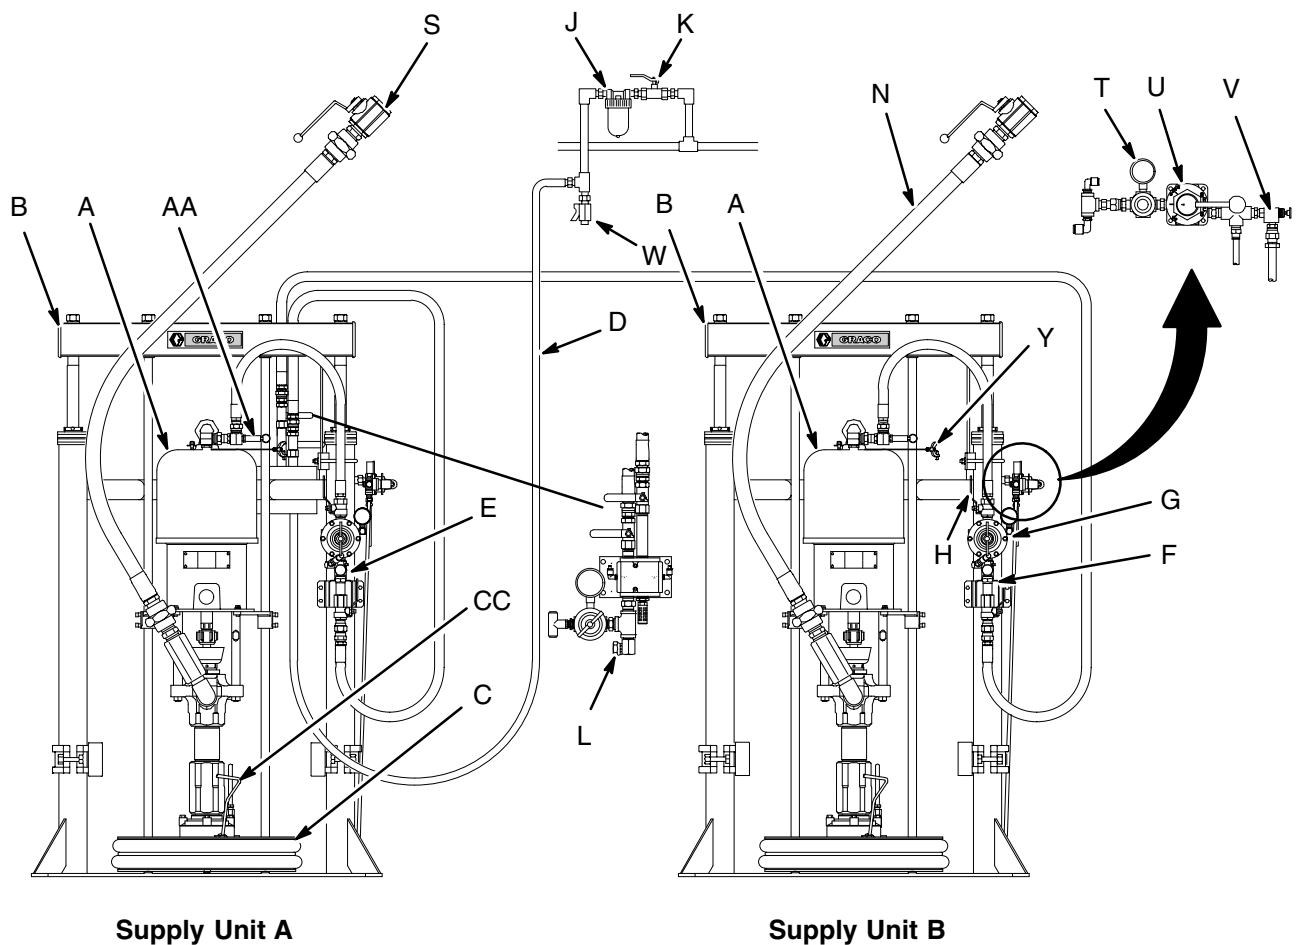
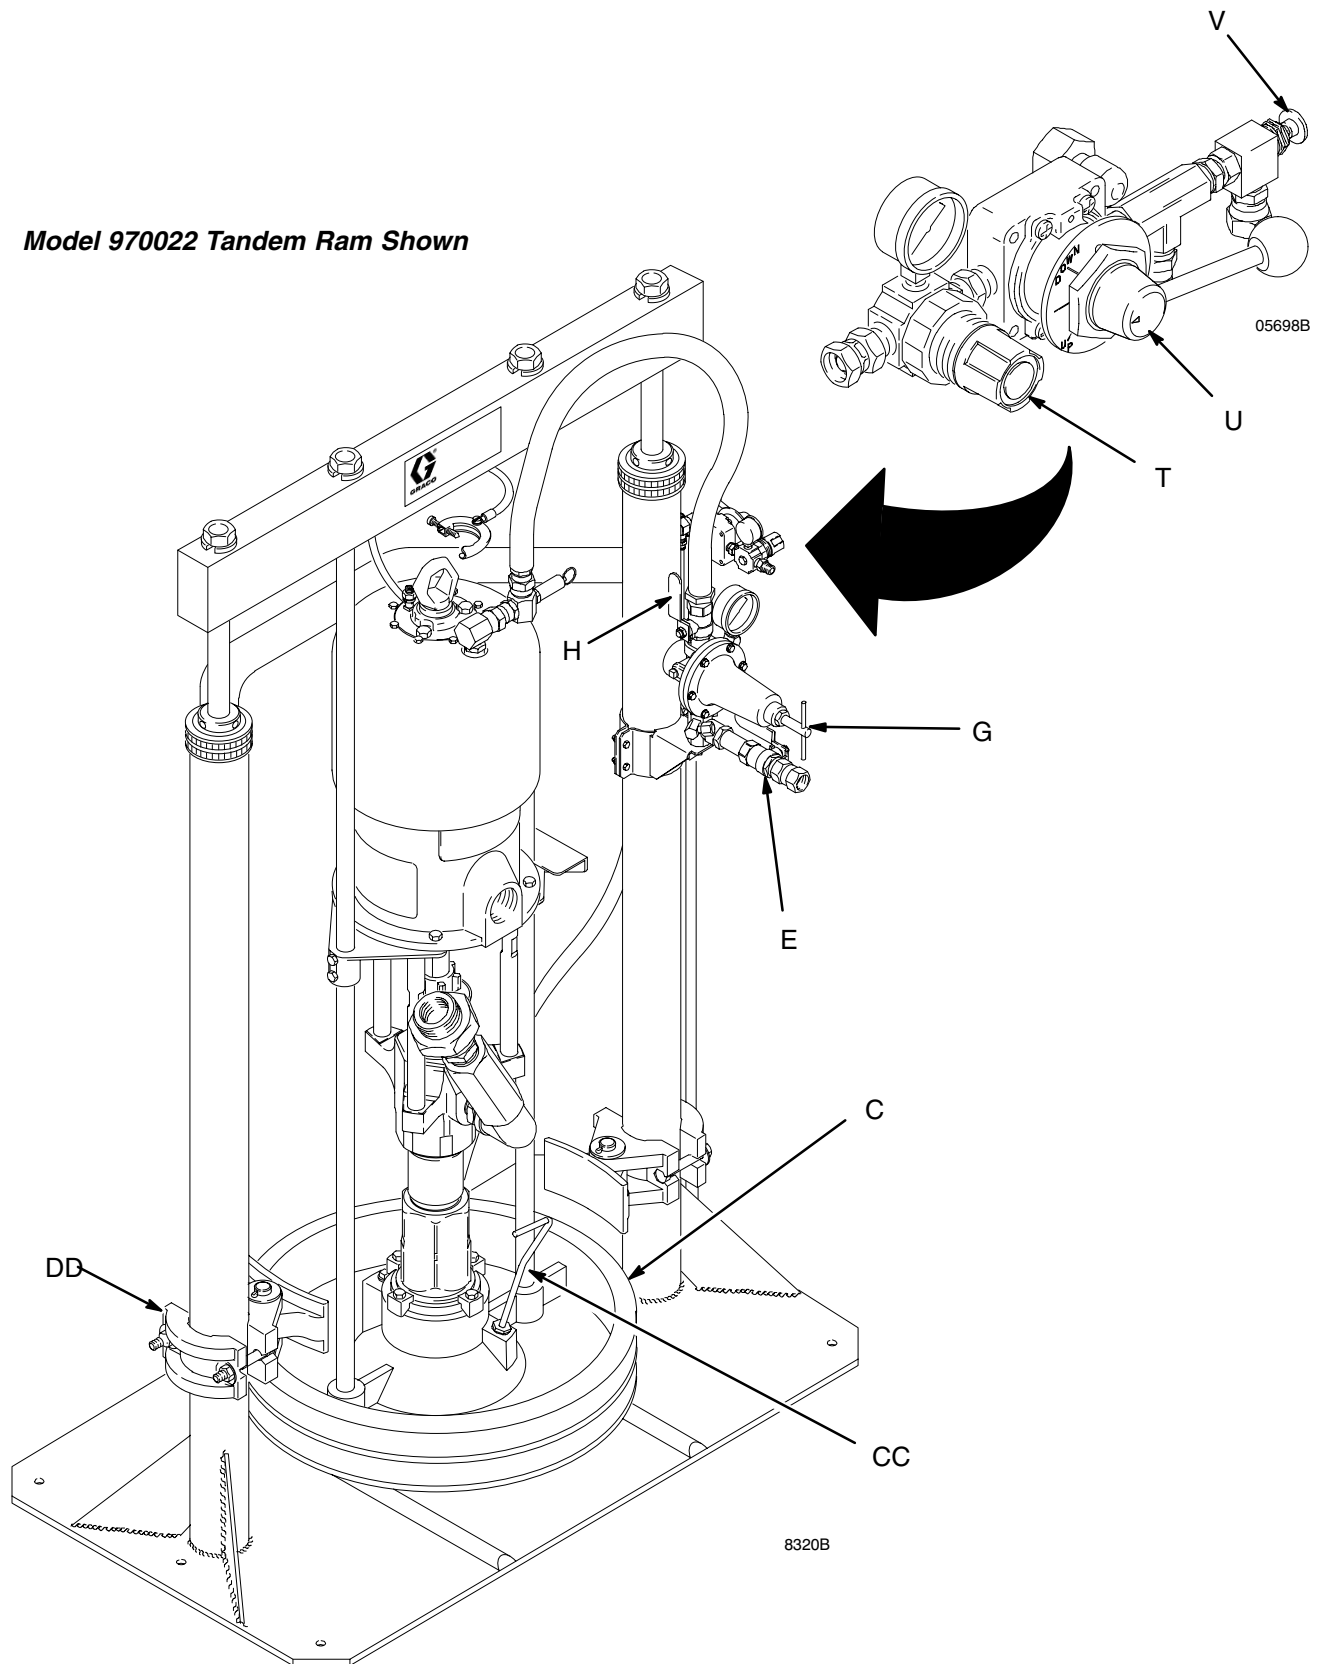

Fig. 1
Fig. 6
The 970022 system consists of a 55 gallon supply unit with pneumatic crossover for continuous material supply. The 970023 system consists of a 55 gallon supply unit with an electric crossover for continuous material supply. System 970024 is a single 55 gallon supply unit with a low-level shutoff. See Fig. 1.
Be sure all air hoses (D) and fluid hoses (N) are properly sized and pressure-rated for your system. Use only electrically conductive hoses. See Fig. 1.
2. Close dispenser ball valves (S). Unhook ball valves from system. See Fig. 1.
3. Close pump air bleed valve (H, required in your system). See Fig. 1 or Fig. 6.
4. Shut off main air bleed valve (E, required in your system). Set ram director valve (U) to DOWN. Ram will slowly drop.
2. Close all air regulators and air valves. See Fig. 6.
3. Open main air bleed valve (E) and set ram air regulator (T) to 2.8 bar, 0.26 MPa (40 psi). Move director valve (U) handle so arrow points to UP, and let ram rise to full height.
4. Set full drum of fluid on ram base, slide drum back against tube stop, and center under ram plate (C). Use drum clamps (DD) to center, hold, and properly align drum with ram.
1. Be sure pump air regulator (G) is closed. Set ram air regulator (T) to 3.5 bar, 0.35 MPa (50 psi). Set director valve (U) to DOWN. See Fig. 6.
3. Keep director valve (U) set to DOWN while pump is operating.
1. Stop pump. Close pump air bleed valve (H). See Fig. 6.
2. Before raising wiper plate, locate push button on air release valve (V).
3. Set director valve (U) to UP to raise wiper plate. At the same time, carefully equalize pressure in drum by operating air release valve.
1. Set director valve (U) to neutral. See Fig. 6.